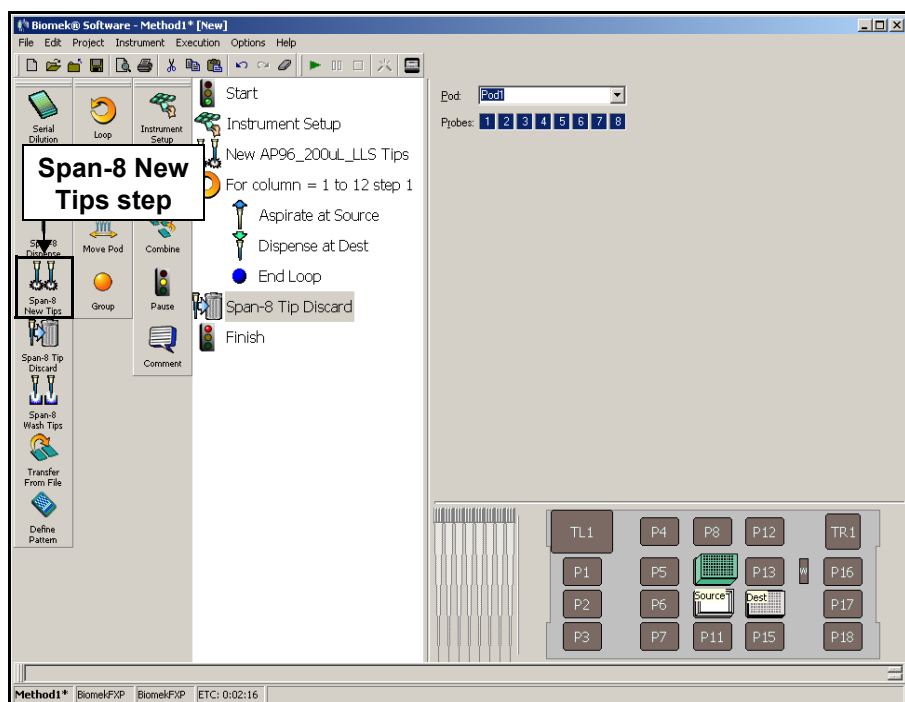

Figure 7-13. Loading and unloading tips outside the Loop
4. Insert a **Span-8 Tip Discard** step after the **End Loop** icon in the **Method View**. Your method should now look like Figure 7-13.